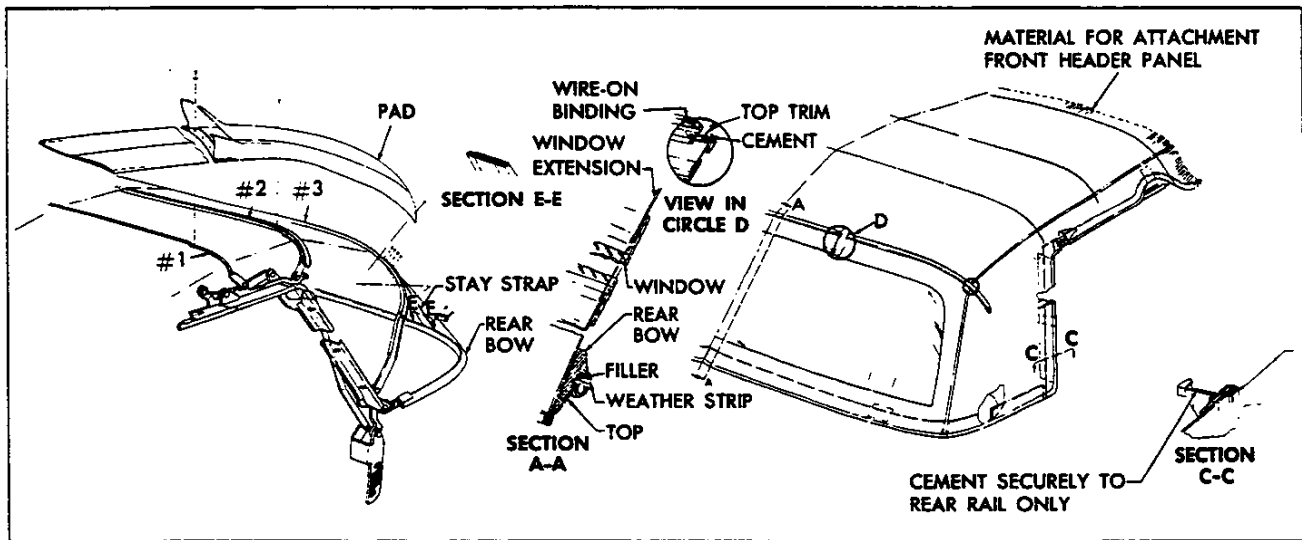
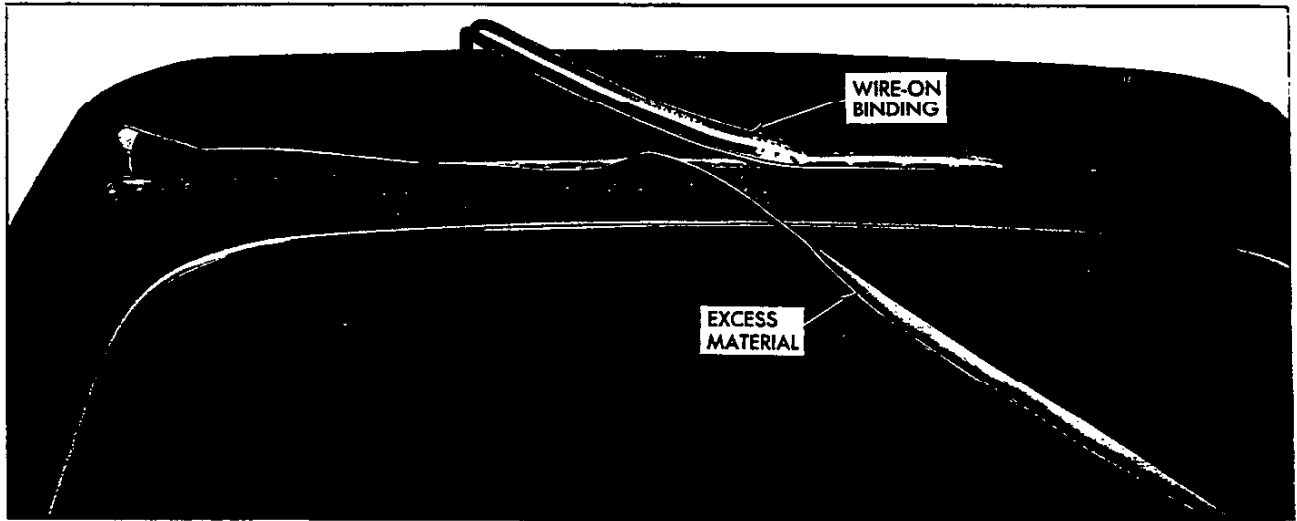

Fig. 64—Folding Top Trim Installation
Fig. 71—Installing Binding
complete. Figure 64 may be referred to for parts identifications. Lettered sections (i.e. Section A-A) referred to in the instructions may also be found in Figure 71. Note that the sections are illustrated as they would appear if the parts were cut through on the lettered lines on the top assembly and the cut surface exposed. Arrows indicate direction in which you would have to look in order to see the view shown.
8. Draw window extension up to #3 bow, aligning centering marks. Turn an ample amount of fabric under and tack to #3 bow. Apply neoprene trim cement, GM Part #3695016 or equivalent, to area shown in View D of Figure 64. Follow directions on package.
as shown in Figure 71 and View D of Figure 64. Install binding caps.